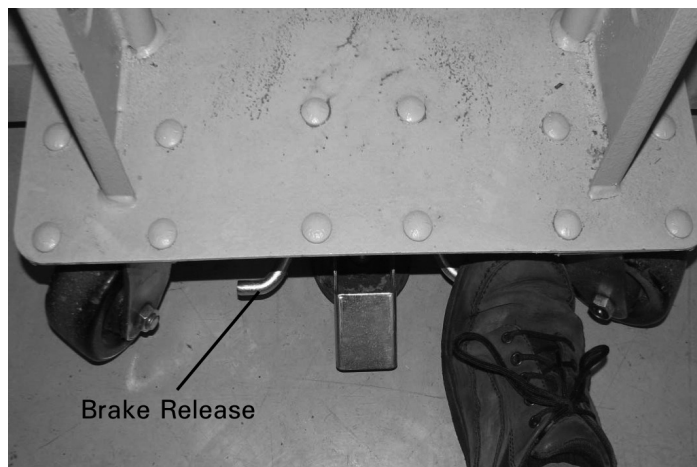

Figure 27. Releasing the Lifter Brake.
3. Roll the drawer onto the lifter pan and up against the rubber stops. Use the pan rails as a guide (see Figure 27).
4. Make sure the drawer safety latch has secured the drawer to the lifter pan (Figure 27). The safety latch hitches to the underside of the drawer flange. Push on the drawer to confirm it is fixed to the pan.
2. Release the lifter brake by stepping down on the brake release (see Figure 27).
6. Release the lifter brake by stepping down on the brake release (see Figure 27).
10. Release the lifter brake by stepping down on the brake release (see Figure 27).